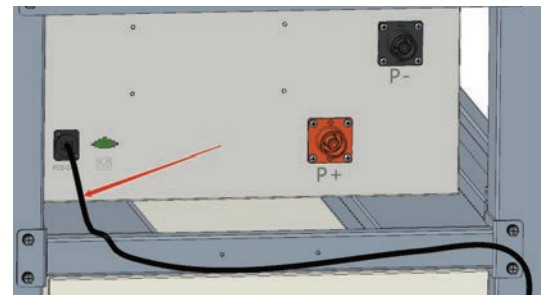

Figure 2.11
(7) The main control box communication CAN line is connected to PCS communication CAN line. Plug in and lock the main control box CAN communication plug, and lock the PCS communication CAN port. (Figure 2.11).